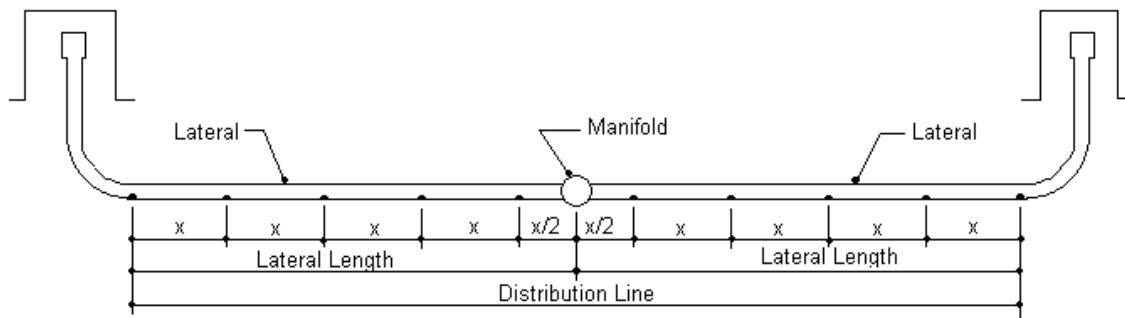

Figure 3 – Number of Orifices in a Distribution Line
5. Determine the number of orifices in a distribution line. The number of orifices is determined by using the following equation. See figure 3.